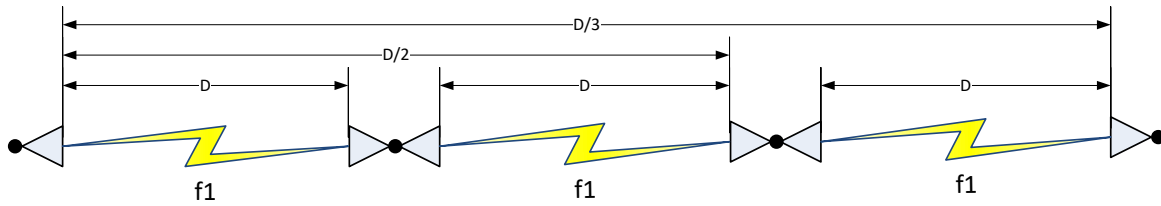

Figure 3 MND5-M MagiNode™
- 2- MND5-M (Figure 3): has a built in 13 dBi Antenna. It is less expensive and can be used for shorter hops when needed. Has MIMO and therefore is capable of very high data rates.